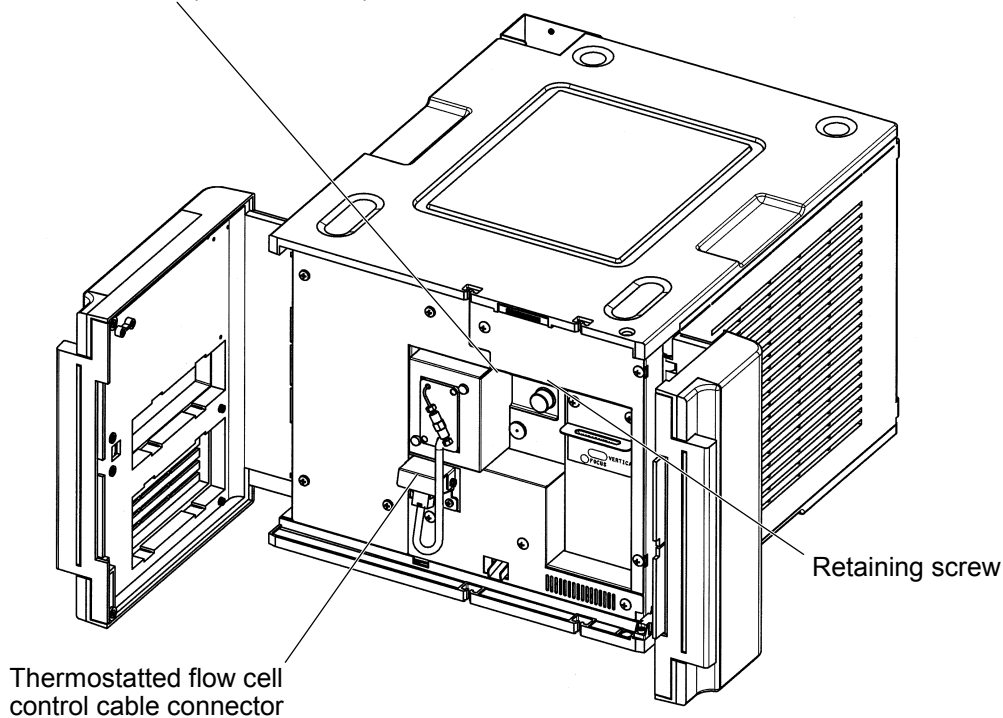

Fig. 4-8 Check of Flow Cell
- (1) Loosen the retaining screw of the flow cell unit (see Fig. 4-8).
- (2) Pull the flow cell unit straight out.
- (3) Check the inside of the cell visually to see if it is contaminated with any foreign substance (crystallized substance, etc.).
- (4) Check the outside of the cell for any leakage.
- (5) If contamination is observed inside the cell, it must be cleaned with an appropriate solution. If an aqueous solvent has been used, distilled water should be used for washing. And if an organic solvent has been used, then ethanol (or acetone) should be used for washing.